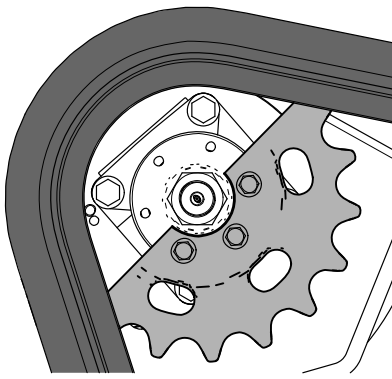

Figure 63
1. Bolt (3)
11. Move the traction control forward until the other half of the drive sprocket is not engaged with the track (Figure 63).